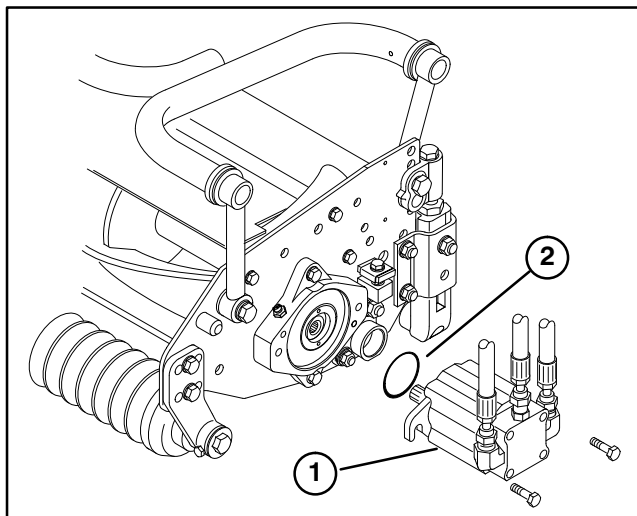

Figure 1
2. Disconnect drive motor from cutting unit (Fig. 1).